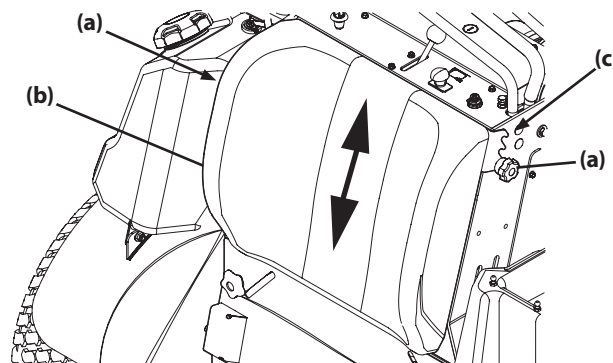

Figure 6
- Loosen the two star knobs (a) securing the leg pad (b) to the mower (Figure 6).